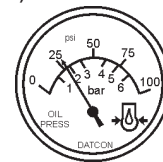

Figure 49. Oil Pressure Gauge
10. The engine oil pressure gauge (Figure 49) will indicate the oil pressure of the engine. Under normal operating conditions the oil pressure is approximately 42 to 71 psi. (290~490 kPa).